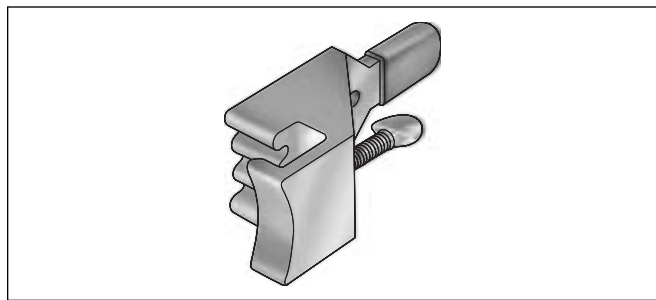

Figure 7-42. Final Drive Sprocket Locking Tool (Part No. HD-41184)
7. Obtain FINAL DRIVE SPROCKET LOCKING TOOL (HD-41184) to lock transmission sprocket. See Figure 7-42. Proceed as follows: